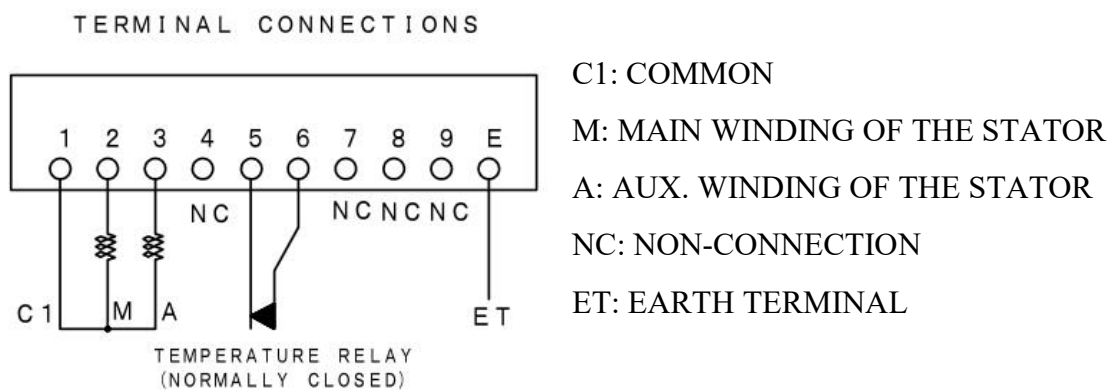

Figure 2-5 Anode terminal wiring diagram
- 19. Refer to **Figure 2-5** for anode plate wiring of assembly.